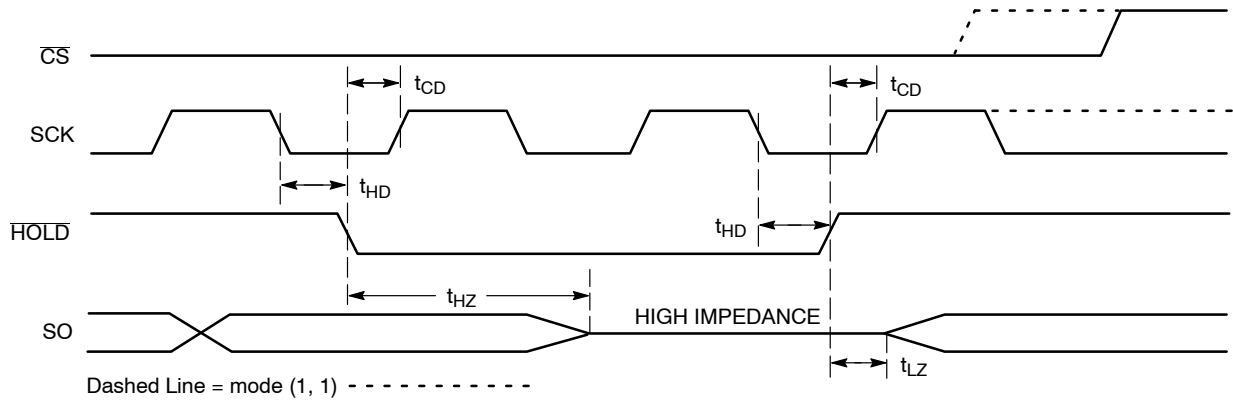

Figure 11.  $\overline{\text{HOLD}}$  Timing
The  $\overline{\text{HOLD}}$  input can be used to pause communication between host and CAT25080/160. To pause,  $\overline{\text{HOLD}}$  must be taken low while SCK is low (Figure 11). During the hold condition the device must remain selected ( $\overline{\text{CS}}$  low). During the pause, the data output pin (SO) is tri-stated (high impedance) and SI transitions are ignored. To resume communication,  $\overline{\text{HOLD}}$  must be taken high while SCK is low.